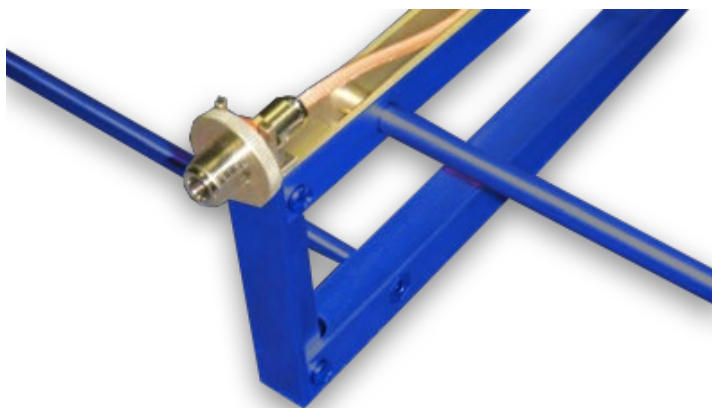
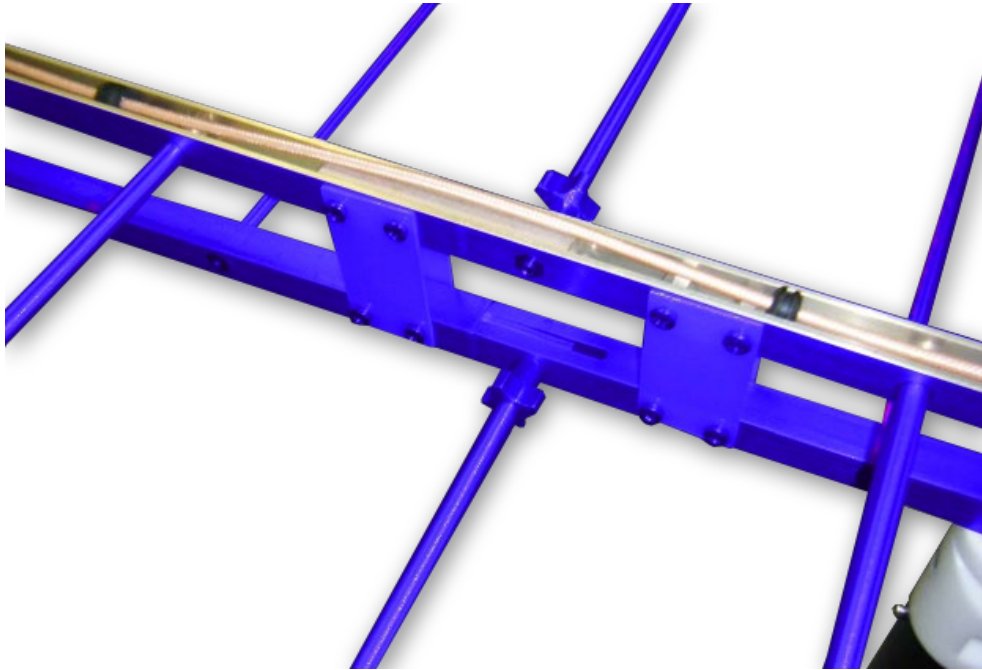

Figure 4-2 LPD-100M1G Connector Detail
Figure 4-3 LPD-100M1G Boom Joint & Cable Grommet Details
4. Once the elements with knobs are installed, it is safe to install the cable. Attach the cable connector to its mount and tighten the knurled thumbnut provided (see Figure 4-2). Press the cable into the top boom, working from the front of the antenna to accumulate slack toward the connector at the rear (see Figure 4-3). Avoid tensioning the cable or bending it sharply at the connector.
Mount the LPD-100M1G using the provided $\frac{1}{4}$ -20 hole on the bottom of the mast. Connect the RF output of the antenna (Type N Female; see Figure 4-2) to the receiver or test equipment using an appropriate coaxial cable. If using the optional Polarization U-Joint, adjust the polarization angle as necessary. The antenna is now ready for use.